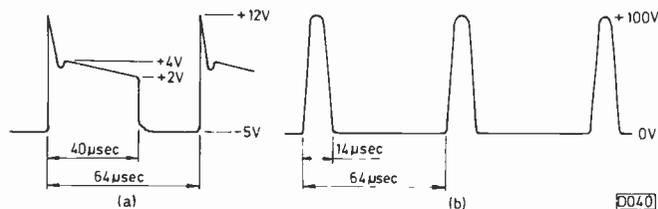

Fig. 7: (a) Line drive waveform – at secondary of the line driver transformer. (b) Waveform at the collector of Q1501 in the test condition.
- (9) Leave the 19V supply connected as during the chopper tests (no mains input). Connect the oscilloscope to check the waveform between the transformer side of R1500 and chassis. The waveform should be as shown in Fig. 7(a). If it's not correct, find out why not and take whatever action is necessary before proceeding further.
- (10) Connect an 82 Ω , 1W resistor between the positive side of the 19V supply and pin 7 on board VH. Measure the voltage between pin 7 and chassis with the multimeter. The reading should be approximately 14V. This test checks the impedance of the 130V input to board VH.
- (11) Connect the scope between the collector of Q1501 and chassis. The waveform should be as shown in Fig. 7(b).